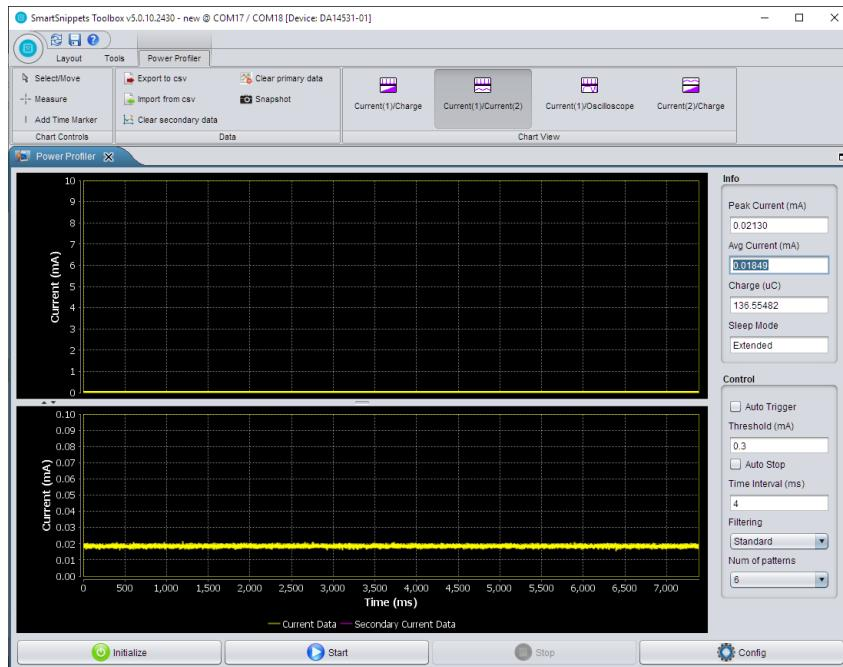

Figure 48: Measuring Offset
3. Run a free running capture for a few seconds and note down the number in the “**Avg Current (mA)**” box (Figure 48). Note that the last digits of the number keep changing slowly due to temperature drift. It is important to periodically execute the calibration steps.